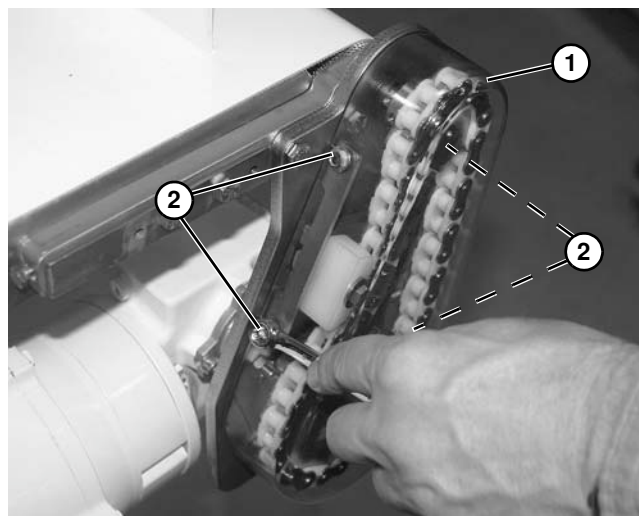

Figure 44
*Do not over-tighten screws (**Figure 44, item 2**).*
- Install cover (**Figure 44, item 1**) and tighten four screws (**Figure 44, item 2**).